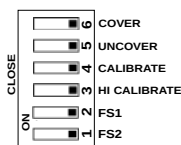

Figure 8: DIP Switch
- Unscrew the cover and ensure that all DIP switches are in the OPEN position as shown in Figure 8. Make sure that the status LED is not blinking for error.
- Unscrew the cover and make sure that all DIP switches are in the OPEN position as shown in Figure 8. Ensure that the STATUS LED is not blinking for error.